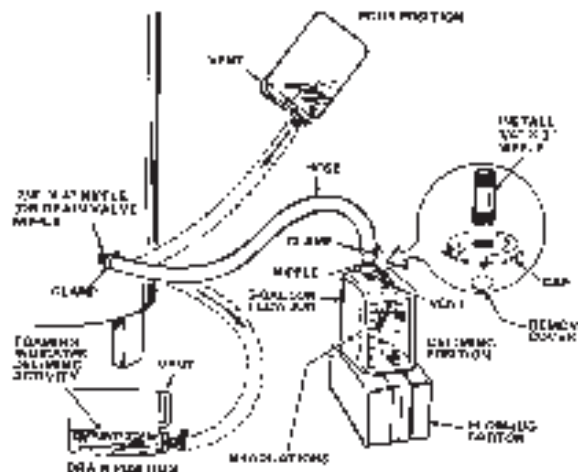

FIGURE 27.
6. Lift container to the “Pour” Position, see Figure 27, being careful to keep the vent in the handle above the liquid level and pour the UN•LIME into the heater.
8. Let UN•LIME remain in the heater for 5 minutes and then lower the container to the “Drain” Position, see Figure 27.